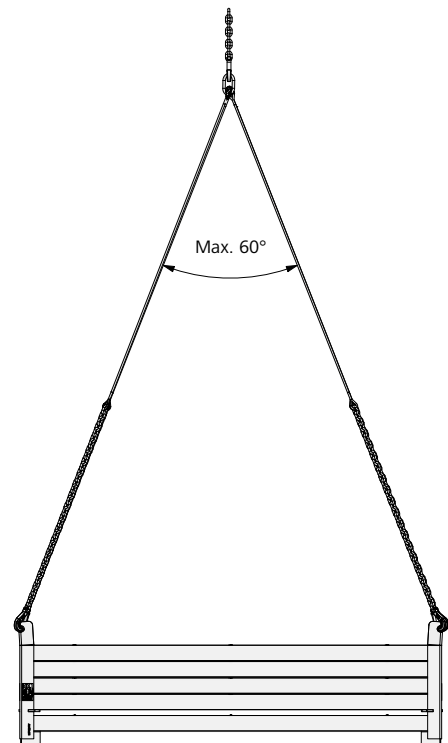

Fig. 76.4
- The opening angle of the crane sling must not exceed 60° (Fig. 76.4).